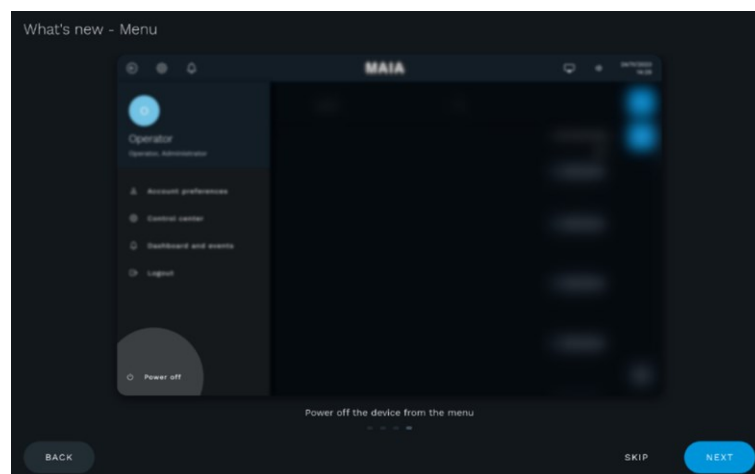

Fig. 23 - What's new
12. See an overview of the basic functions of the device and the improvement introduced by the current software version (Fig. 23). Click **NEXT** to go through the different pages, click **SKIP** to proceed with the configuration.